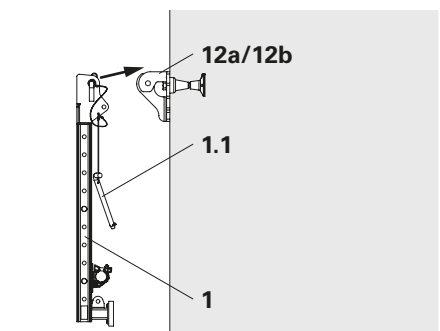
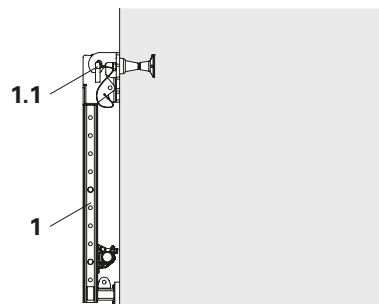

Fig. B1.12
Fig. B1.13
3. Assemble the scaffolding tube bracing. (Fig. B1.12 + Fig. B1.13)